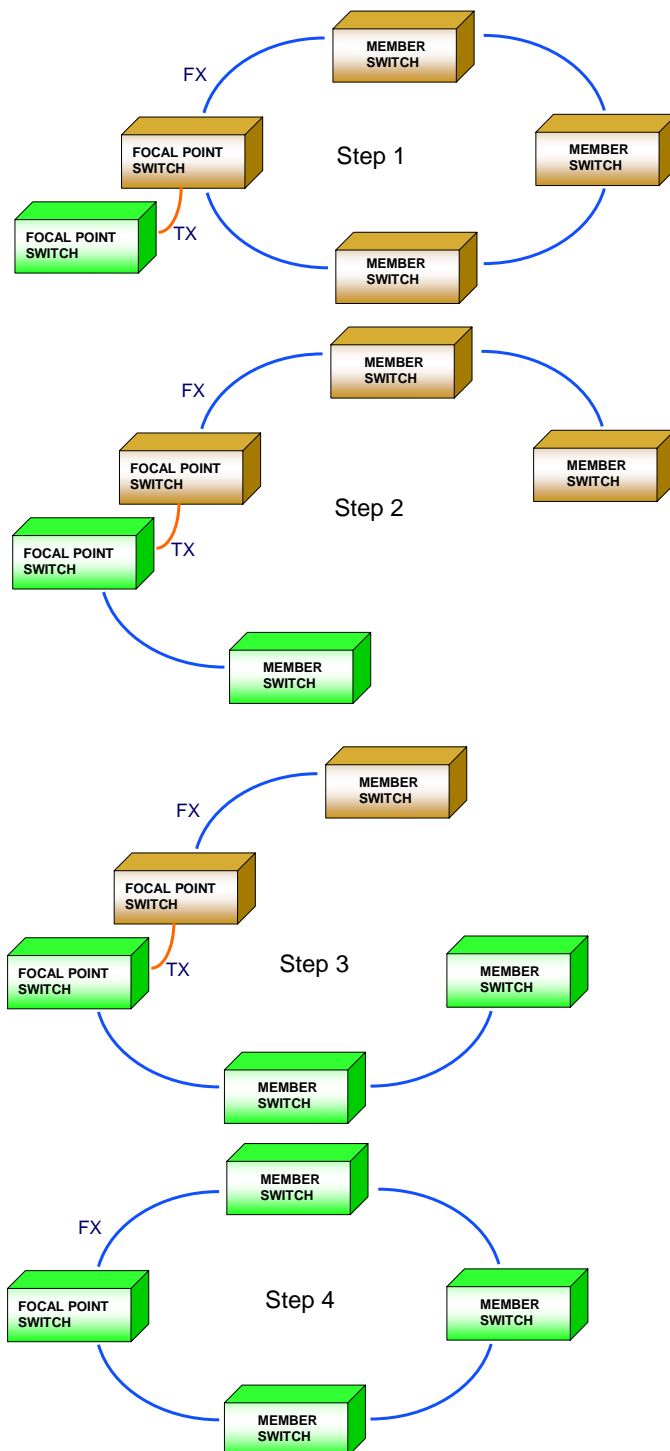

Figure 19, Major software version upgrade
Figure 19 shows how to upgrade switches in a FRNT 0 ring with fiber trunk ports from version 2.24 to version 4.06. This upgrade principle is based on keeping the old FRNT 0 ring running the old software (switches in orange) and build a new FRNT 0 ring with switches running the new software (switches in green). The two rings are connected via the two focal points through a copper drop link (TX). One extra R/T200 switch is required in order to perform this upgrade procedure.